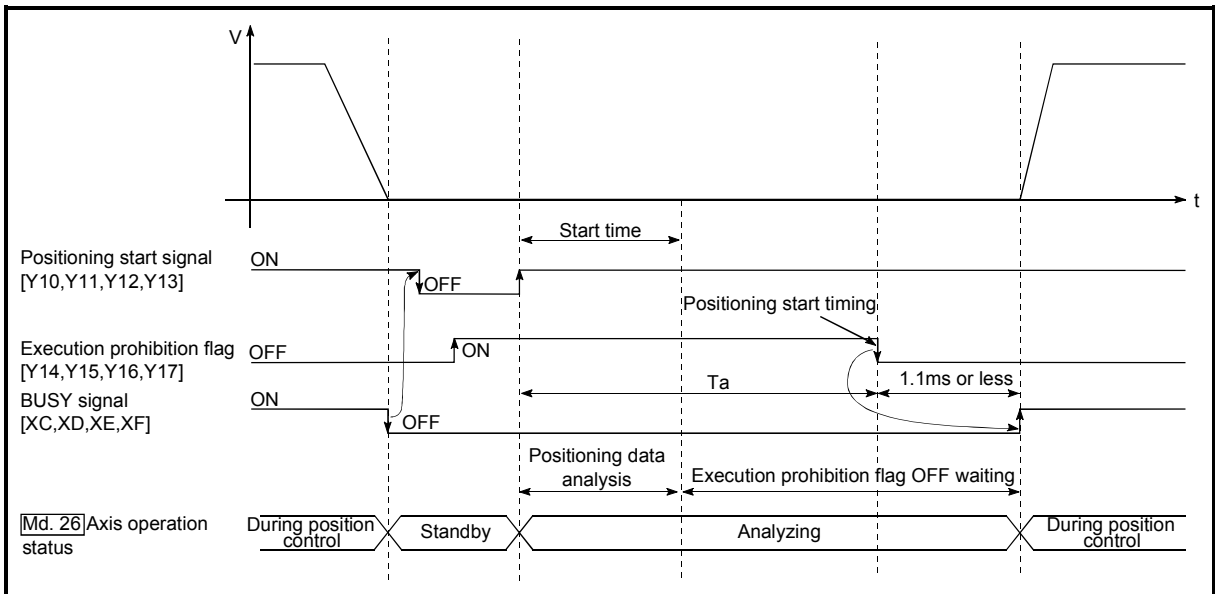

Fig. 12.48 Operations of pre-reading start function
The pre-reading start function is performed by turning ON the positioning start signal [Y10, Y11, Y12, Y13] with the execution prohibition flag [Y14, Y15, Y16, Y17] ON, or by executing the dedicated instruction (PSTRT1, PSTRT2, PSTRT3, PSTRT4). However, if positioning is started with the execution prohibition flag ON, the positioning data is analyzed but servo start is not provided. While the execution prohibition flag is ON, "Md.26 Axis operation status" remains unchanged from "5: Analyzing". Pulse output starts within 1.1ms after the execution prohibition flag [Y14, Y15, Y16, Y17] has turned OFF, and "Md.26 Axis operation status" changes to the status (e.g. during position control, during speed control) that matches the control system. (Refer to Fig. 12.48)
Hence, pre-reading of the next data starts during the stop time T_w . If T_w is a certain period of time, the analysis of the next data is completed during that period, and the system is placed in an execution prohibition flag OFF waiting status. Therefore, replacing the positioning start timing at ② with the execution prohibition flag OFF allows the time from when the axis operation request turns ON until pulse output starts to be reduced to within 1.1ms in the PLC program. (Refer to Fig. 12.48)